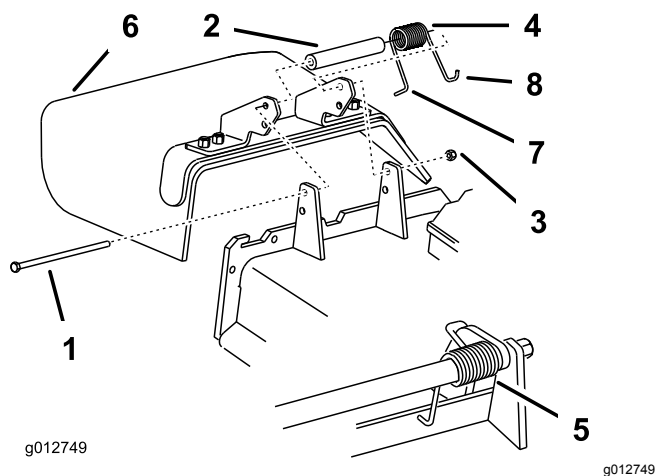

Figure 60
3. Remove the locknut, bolt, spring, and spacer securing the deflector to the pivot brackets (Figure 60).
5. Place the L-end of spring behind deck edge (Figure 60).
Note: Ensure that the **L**-end of the spring is installed behind the deck edge before installing the bolt as shown in Figure 60.
7. Place the **J**-hook end of the spring around the grass deflector (Figure 60).